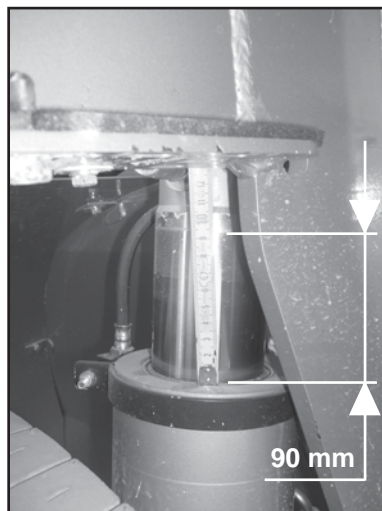
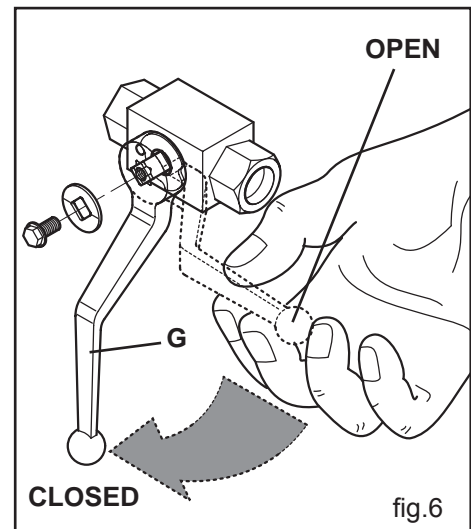

fig.5
fig.6
Adjust the screws (31) until they protrude from the arm by 30 ± 0.5 mm. fig.5
- 6) Switch on the machine and accelerate fully, so the suspension is loaded, and then unload completely; repeat the operation twice to be sure there is no air; while it reloads and rises, measure (fig.5) the piston and when it reaches 90mm close the valve (G fig.6).